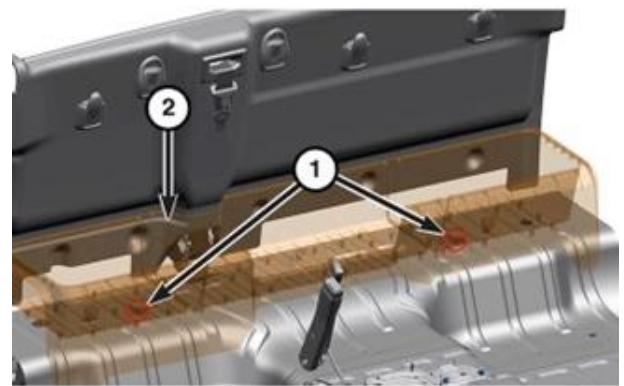

Figure 5 – Rear Storage Bin
3. Remove the two screws that secure the rear storage bin (Figure 5).
4. Lift up on storage bin to remove from vehicle (Figure 5).
23. Install the rear storage bin and tighten the two screws securely (Figure 5).